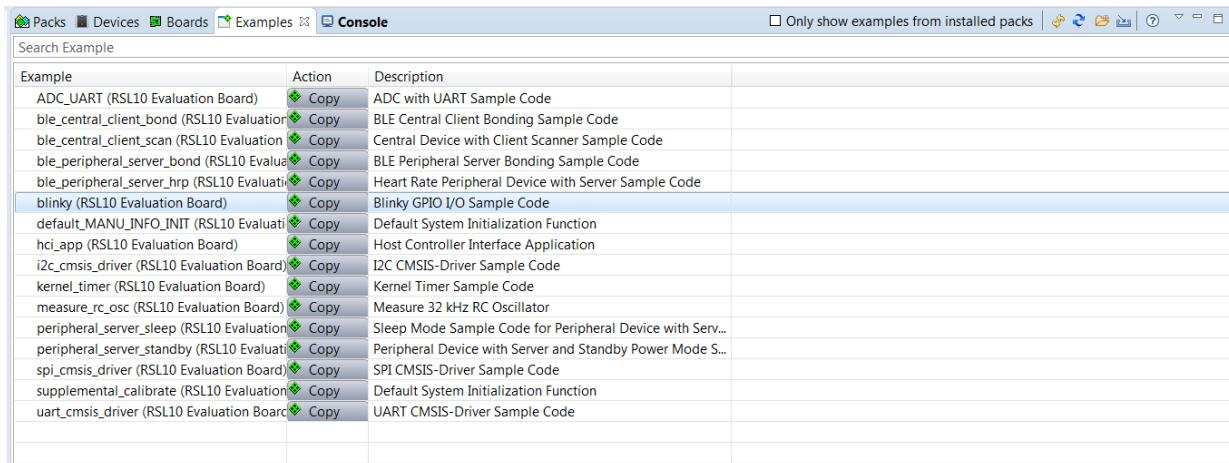

Figure 31. IAR Embedded Workbench CMSIS Manager: Examples Tab
2. Choose the example project called *blinky*, and click the **Copy** button to import it into your workspace (see Figure 31 on page 27). Choose a destination folder for a copy of the sample code.